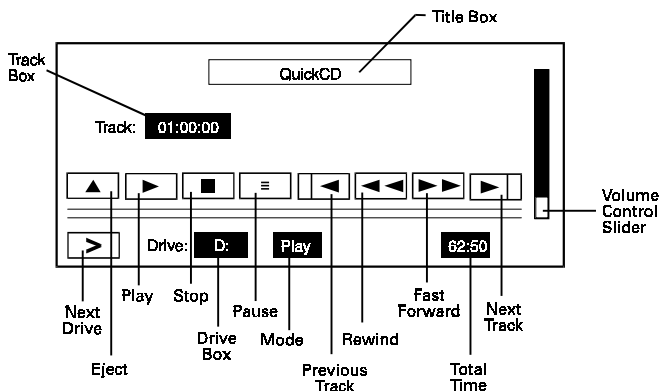

Figure 3-1: The QuickCD screen.
- At the DOS prompt, type **QCD** and press <Enter>. The QuickCD screen similar to Figure 3-1 appears.
DOS QuickCD supports the same features found on a CD player and more. To help you use these features, the following are descriptions of the different buttons and boxes (see Figure 3-1) found on the QuickCD screen: